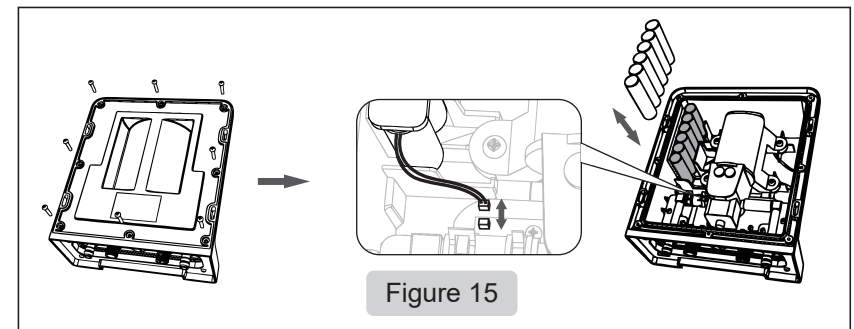

Figure 15
- 4) If the working minutes per watering session fall short of the setting value, replace the battery that is exhausted with a new one (Referring to **Figure 15**).